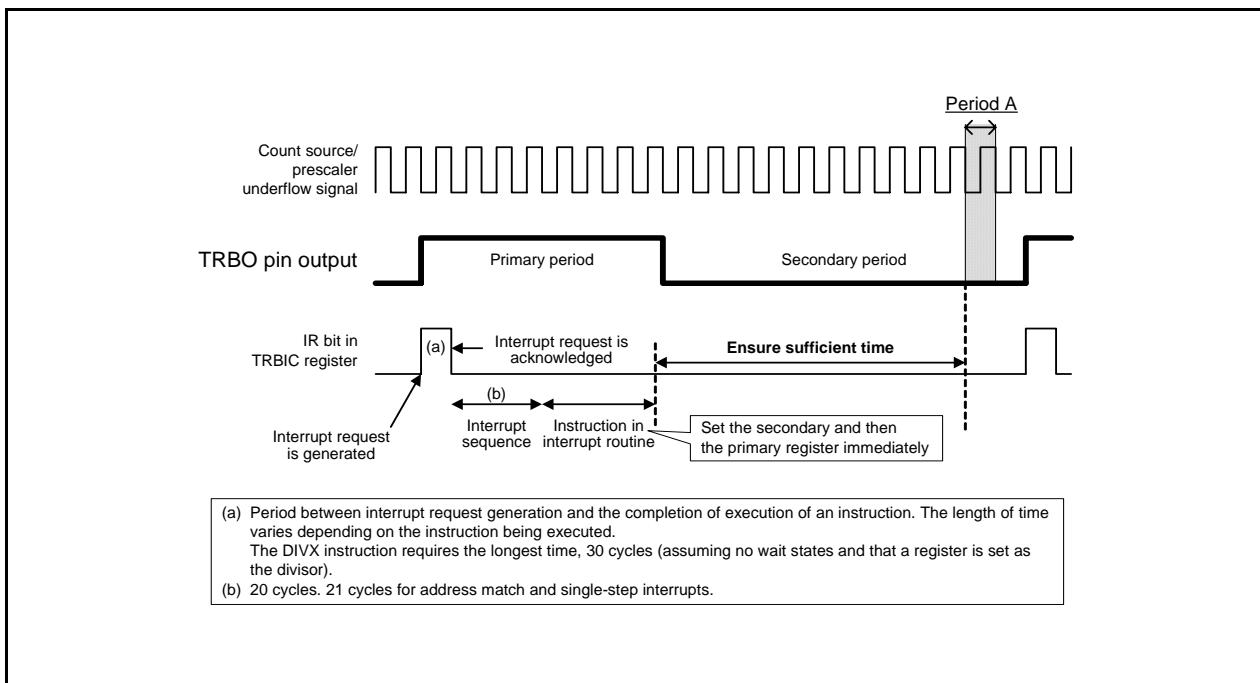

Figure 21.2 Workaround Example (a) When Timer RB interrupt is Used
- (1) To write to registers TRBPREG and TRBPR during count operation (TCSTF bit is set to 1), note the following points:
- (2) To change registers TRBPREG and TRBPR during count operation (TCSTF bit is set to 1), synchronize the TRBO output cycle using a timer RB interrupt, etc. This operation should be performed only once in the same output cycle. Also, make sure that writing to the TRBPR register does not occur during period A shown in Figures 21.2 and 21.3.
As shown in Figure 21.2, write to registers TRBSC and TRBPR in the timer RB interrupt routine. These write operations must be completed by the beginning of period A.